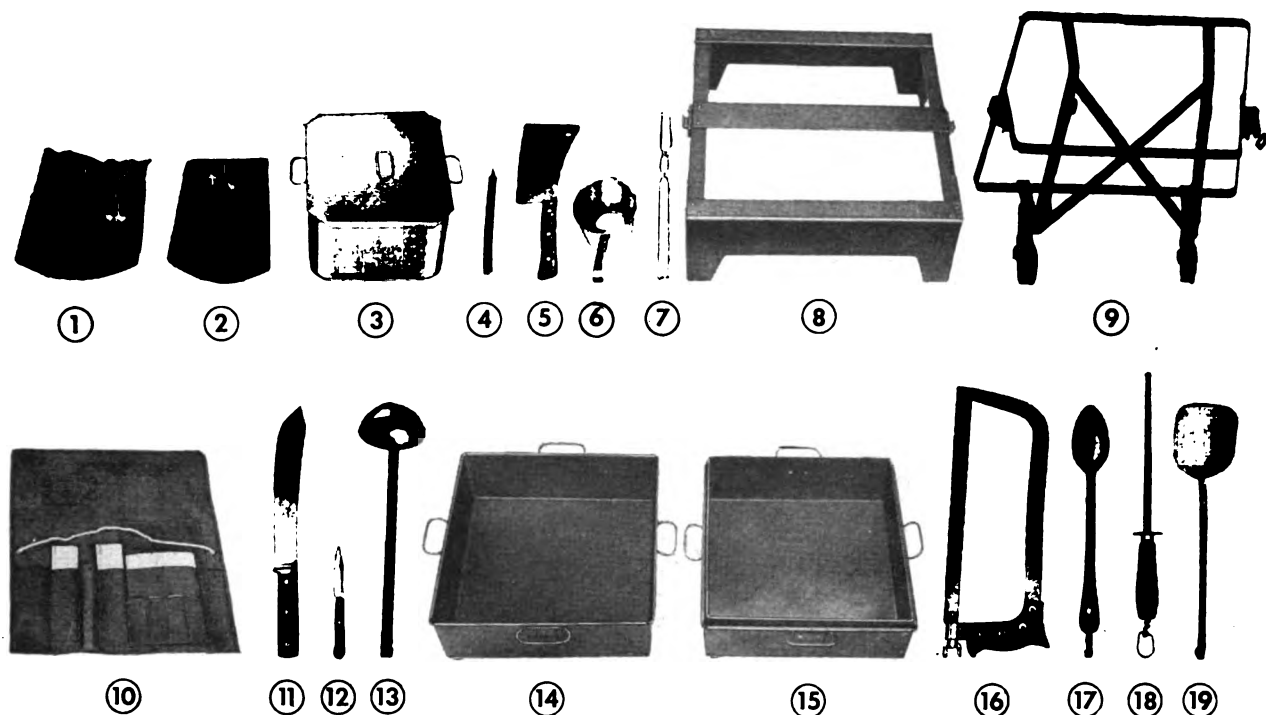

Figure 27. Outfit, cooking, cavalry pack, complete (64-O-205).
d. The outfit, cooking, cavalry pack, complete (see fig. 27) is made up of the following components: